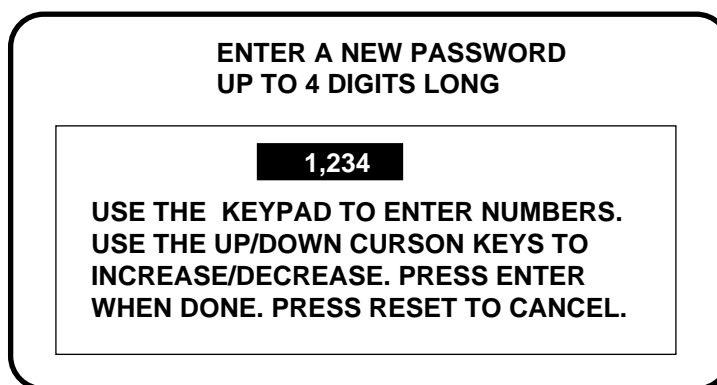

Figure 4-23. "Enter a new password" screen
4. Highlight the password you want to change. Press ENTER. The display looks like Figure 4-23 (next page).